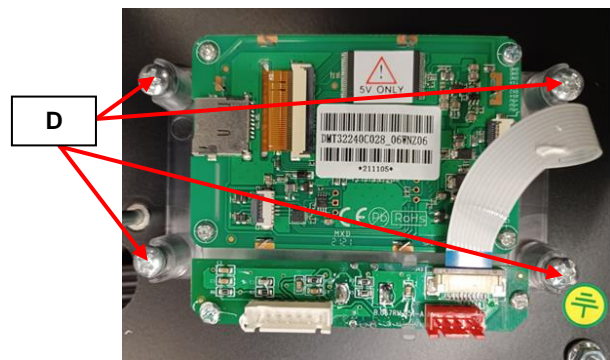

Figure 3
8. Bend the front panel to be able to remove the 4 screws (D). See **Figure 3**